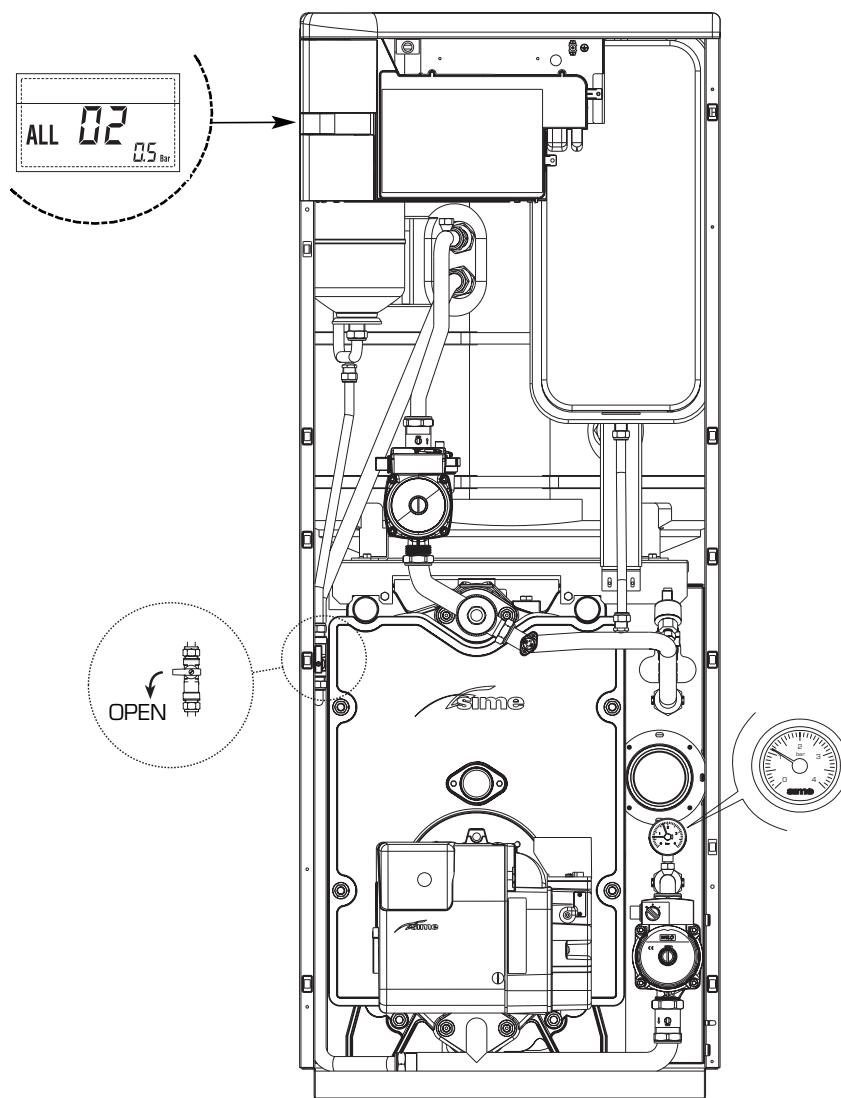

Fig. 15/1
- LOW WATER PRESSURE ANOMALY ALARM O2 (fig. 15/1)
ALARM 03 (fig. 15/2)
(fig. 15/4)